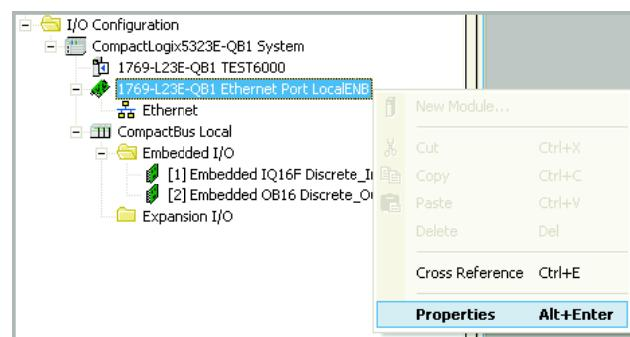

Figure 82 Properties
- When the download is complete, right click on the relevant EtherNet port in the left pane ‘tree’, and select ‘Properties’ (Figure 82).